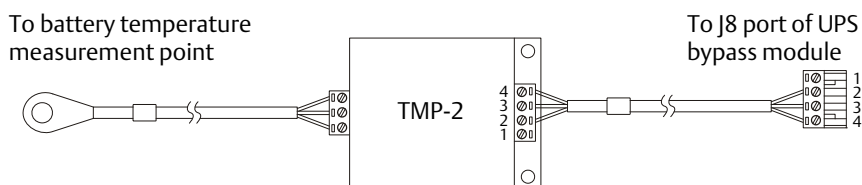

Figure 8-1 Connection between battery temperature sensor and UPS
4. Connect the cable of the battery temperature sensor to the J8 port of the UPS bypass module, as shown in Figure 8-1.